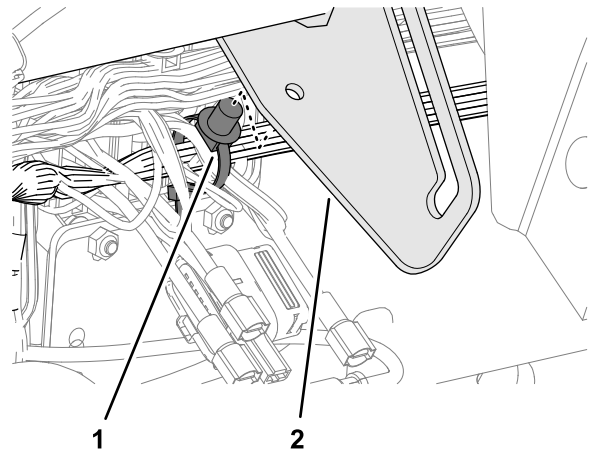

Figure 193
1. Remove the push-in fastener that secures the wire harness of the machine to the prop-rod bracket (Figure 193).